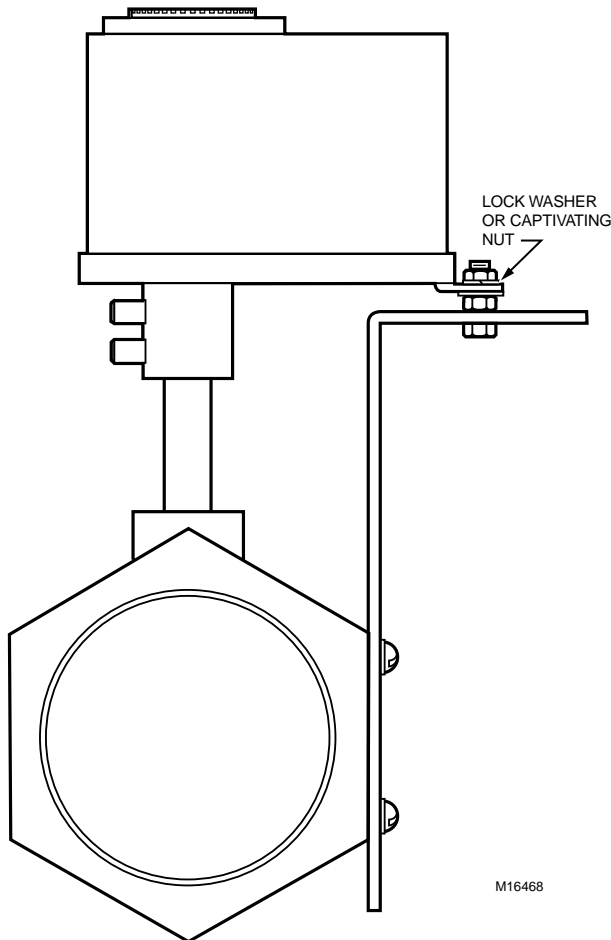

Fig. 3. Mounting ML7999 with mounting bracket accessory.
4. Install the mounting bracket accessory (not included), if needed. See Fig. 3.